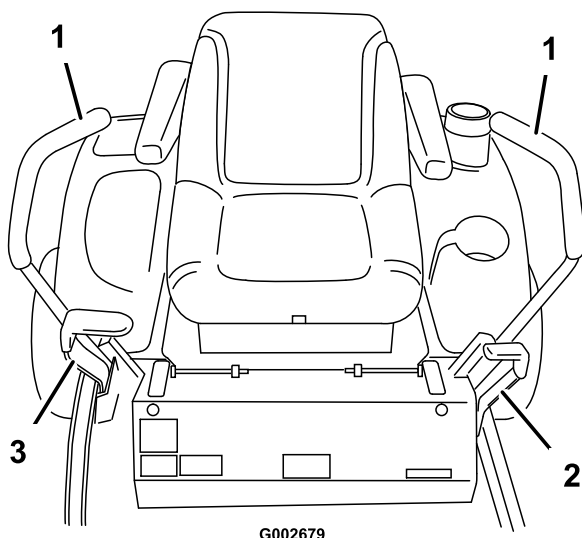
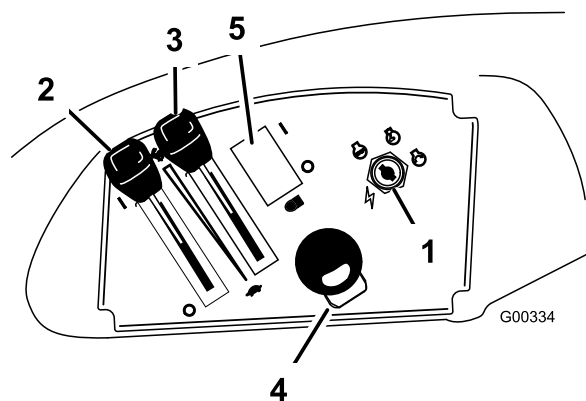

Figure 4
Figure 5
Become familiar with all of the controls Figure 4 and Figure 5 before you start the engine and operate the machine.
1. Move the motion control levers (Figure 4) out to the neutral lock position.